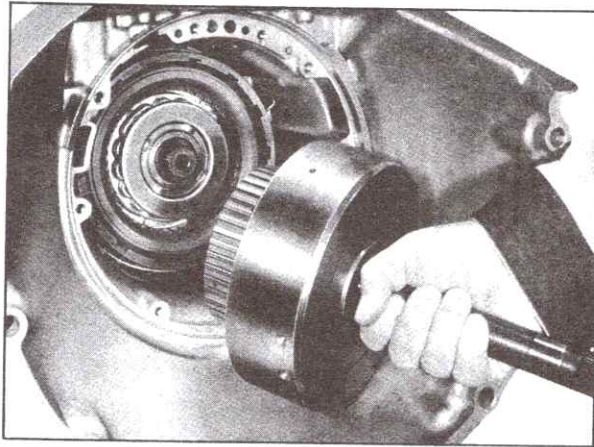

Fig. 7-97 Installing Forward Clutch Assembly
5. Position transmission horizontally in Holding Fixture and install forward clutch assembly and turbine shaft, Fig. 7-97. Make certain end of main shaft goes all the way into forward clutch hub. It will be necessary to rotate clutch housing to allow direct clutch driving hub to index with direct clutch drive plates. When forward clutch is